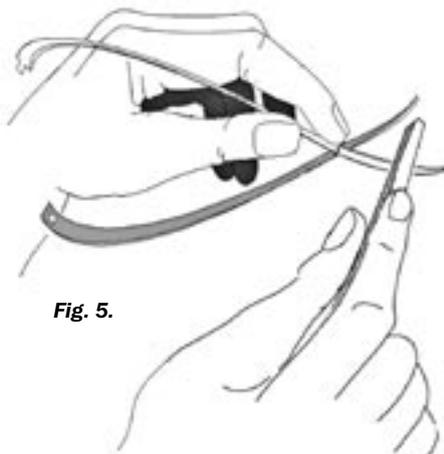

Fig. 5.
- 4 Always sharpen in one direction into the cutting edge (Figure 5)